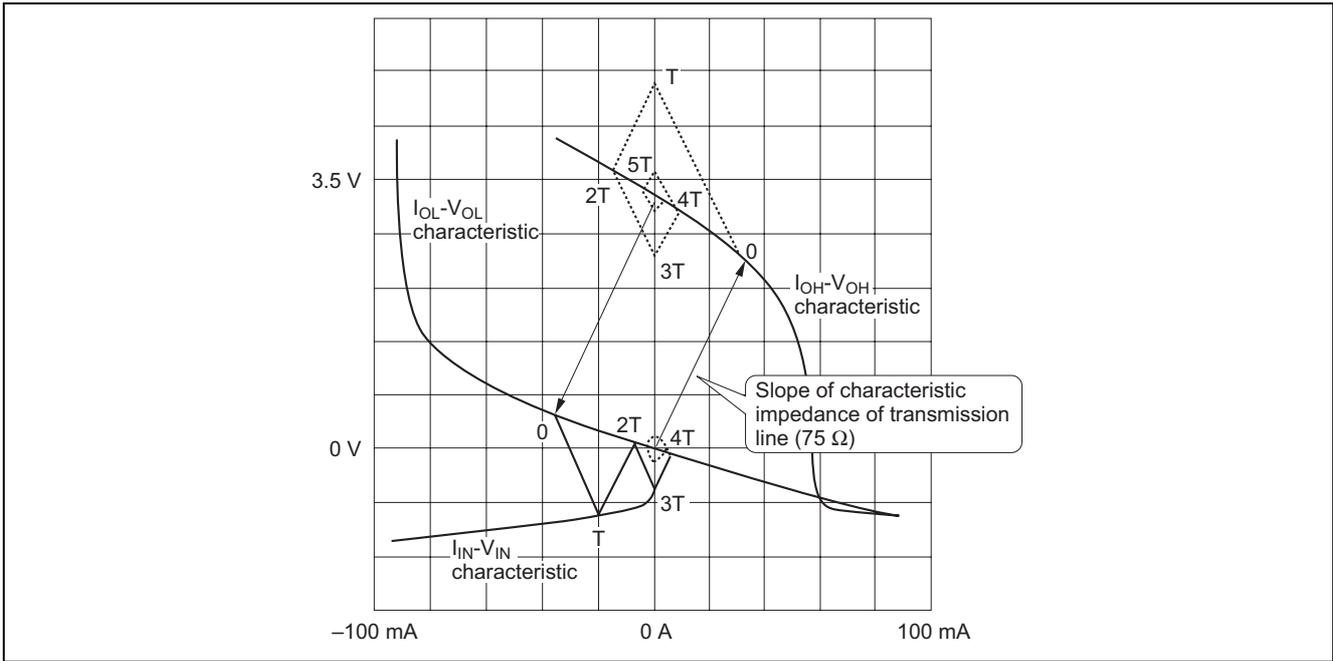

Figure 5-5-1 Analysis of Reflection Waveforms (Bergeron Diagram)
7. Add time-series symbols (0 , T , $2T$, $3T$, ...) to the Bergeron diagram, taking the transmitting device and receiving device in order. Figure 5-5-1 shows a completed Bergeron diagram.